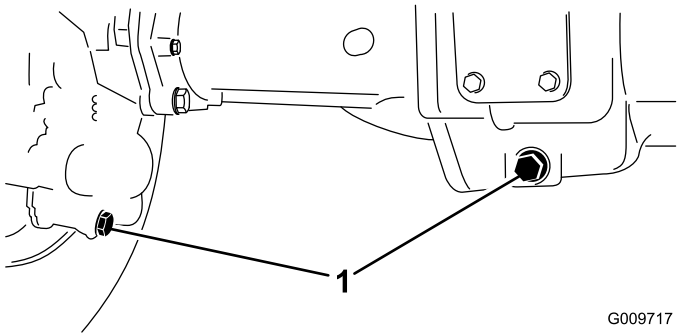

Figure 112
2. Clean the area around the 3 drain plugs—1 on each end and 1 in the center (Figure 112).